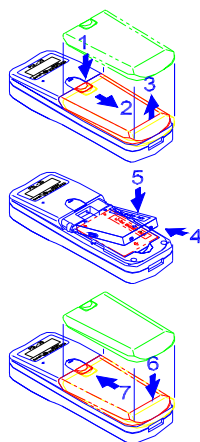

Fig 1
place the accompanying battery in the battery compartment as shown in fig 1:
- b. Remove the back cover in a sequence similar to Fig 1.